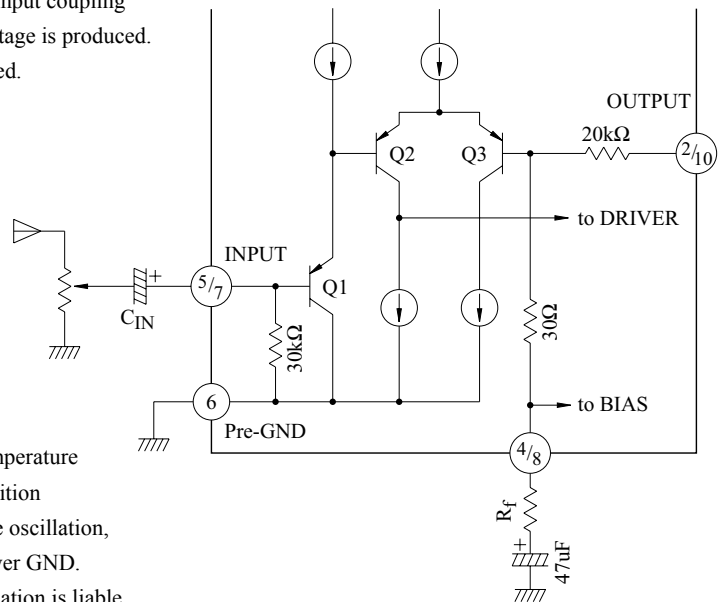

Fig. 2
The input circuit of this IC is as shown in Fig. 2. PNP TR:Q1 is provided in the input circuit so as to make its usage possible without the input coupling capacitor. However, at pins ⑤ and ⑦, max 60mV offset voltage is produced. Application after checking volume slide noise is recommended.